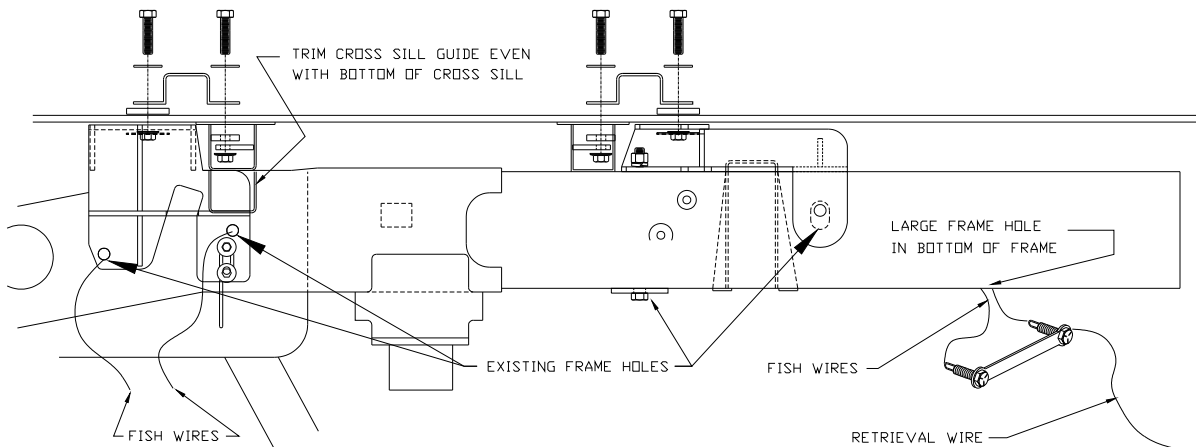

Fig. 10.
Refer to figure 10 page 7 if the installation is for a six foot bed truck. Trim the cross sill extensions located under the front bed cross sill even with the bottom of the main cross sill as they will interfere with the installation of the Front Mounting Bracket.
3. Find the existing frame holes as shown in figure 10 this page. The 5/8" bracket hole and the large round holes located on the bottom of the frame towards the rear of the truck.